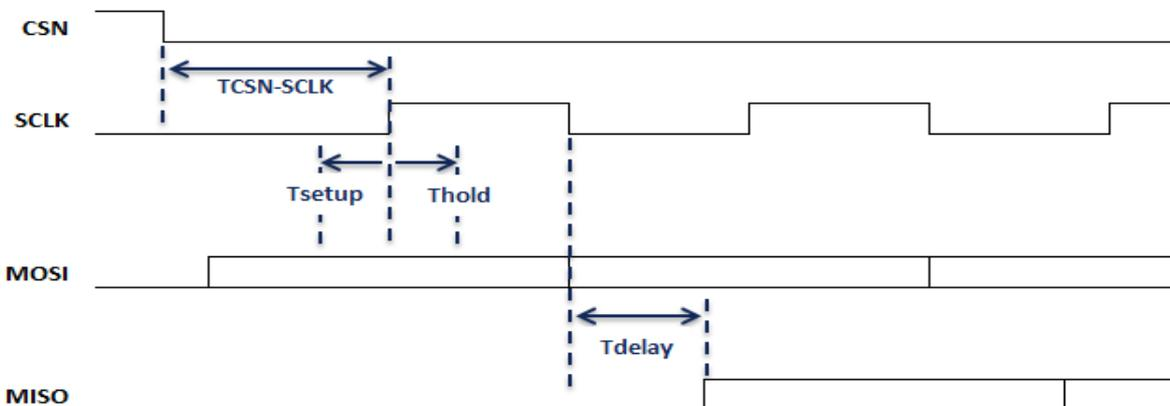

Figure 7: SPI timing diagram
1. Refer to timing diagram in Figure 7